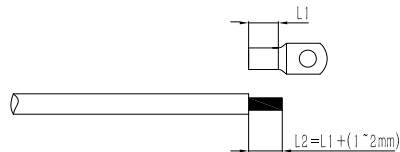

Figure 3.3.3-1
1. Strip the wire insulation sheet of a suitable length with a wire stripper, illustrated as Figure 3.3.3-1.
2. Insert the stripped wire into the terminal and compress it tightly by crimping pliers, illustrated as Figure 3.3.3-2.